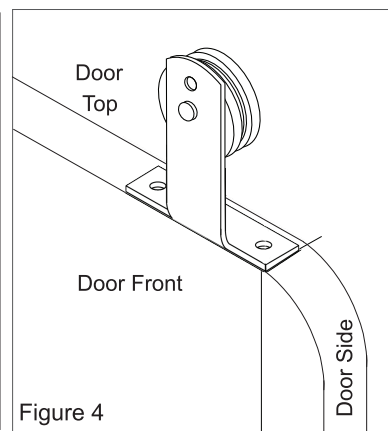

Figure 4
- If the door has a curved corner set the hanger flat on the top (Figure 4).
5. Attach one end of the track to the wall with one standard stop, one lag screw, one spacer and one washer, using a socket wrench with 9/16" socket (Figure 4). Do not tighten.